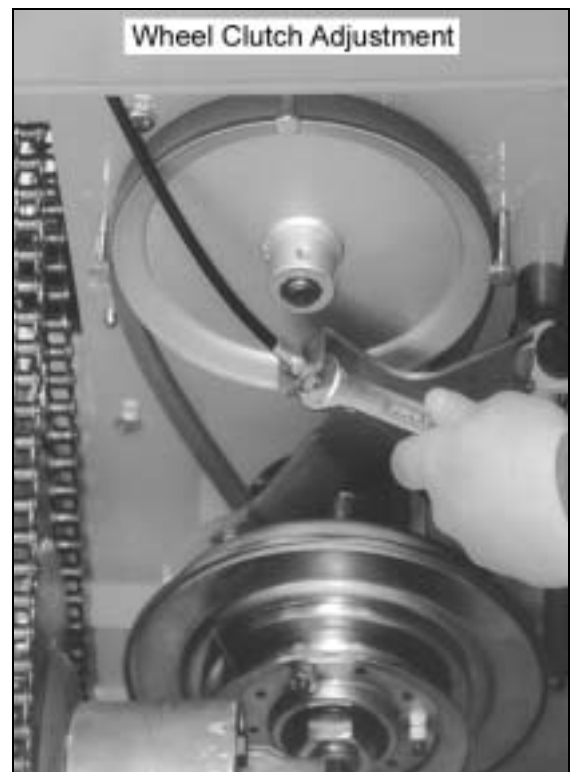

Figure 16
1. Find the wheel clutch adjustment on the clutch bracket on the underside of the machine (*Figure 16*).